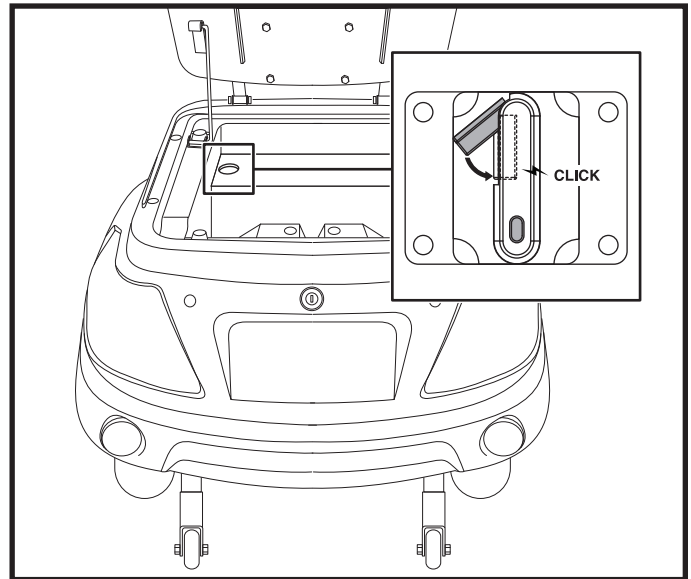

Figure 7. Main Circuit Breaker
When the voltage in the batteries becomes low or your scooter is heavily strained because of excessive loads, the main circuit breaker may trip to protect the motor and electronics from damage. When the breaker trips, the entire electrical system shuts down. **See figure 7.**
- Locate the circuit breaker access point (cut-out) in the upper left corner of the rear storage compartment. **See figure 7.**